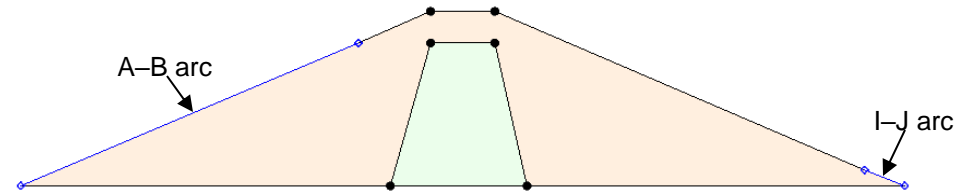

Figure 7 Specified-head boundaries
1. Using the **Select Arcs**  tool, double-click on the A–B arc on the left side (Figure 7) to bring up the *Attribute Table* dialog.
5. Repeat steps 1–4 with the I–J arc on the lower right side (Figure 7), entering “2.0” in the *Head (m)* column.
The arcs will now be blue, indicating they have specified-head boundary conditions (Figure 7).